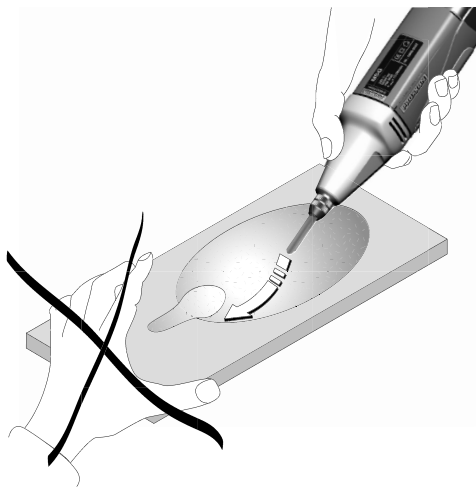
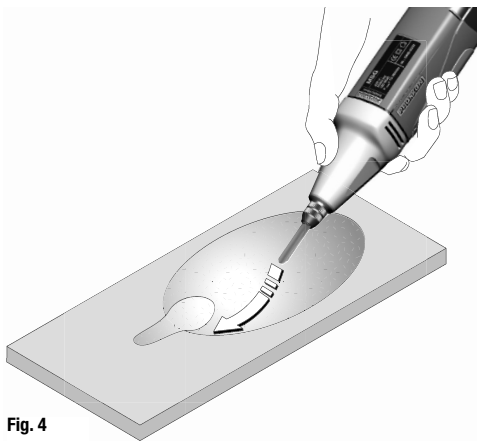

Fig. 3
Fig. 4
Always work moving away from the body and never hold your fingers or hand (Fig. 3) in the direction of cutting. You could hurt yourself if you slipped. Work as shown in Fig. 4!
4. Guide the unit with light hand pressure (Fig. 4) and avoid strong pressure. You can achieve cleaner work results if you let the unit cut through the material by itself without much pressure.